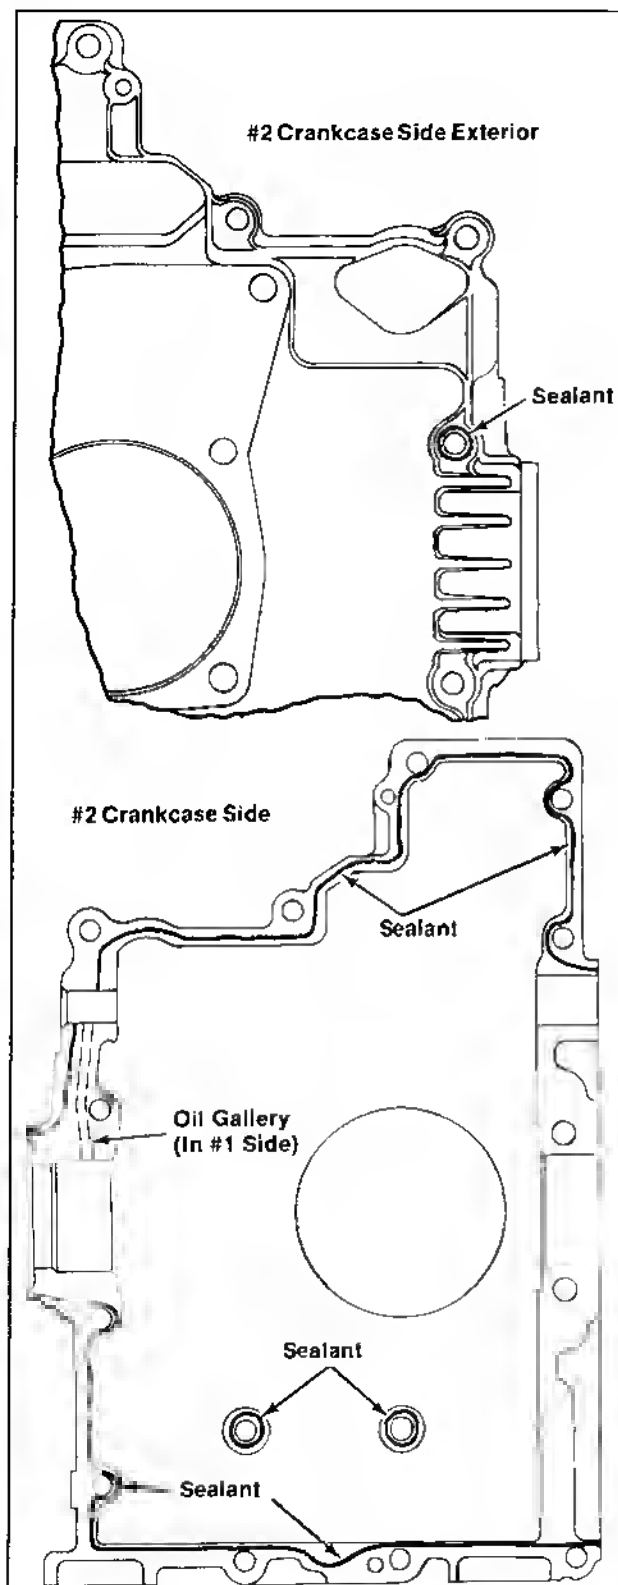

Figure 11-18. Crankcase Sealant Pattern.
2. Apply a 1/16" bead of sealant to the #2 crankcase side as shown in Figure 11-18. Follow the sealant manufacturer's recommendations regarding "setting." Recommended sealants are listed below.